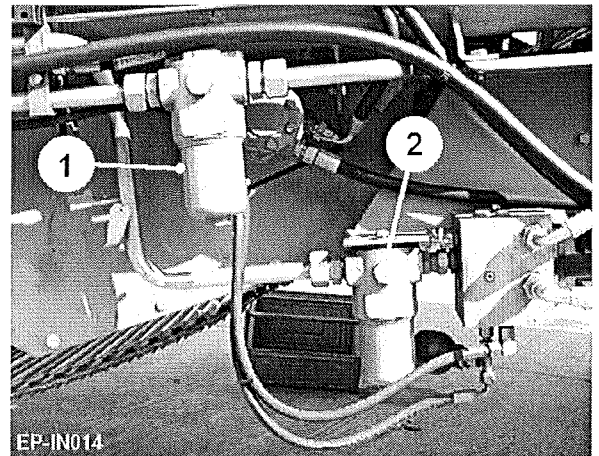

Fig 29
The pressure filter elements (item 4, fig 18, item 4, figure 23, and items 1 & 2, figure 29) should be replaced after the first 50 hours running time and then every 500 hours or annually thereafter.